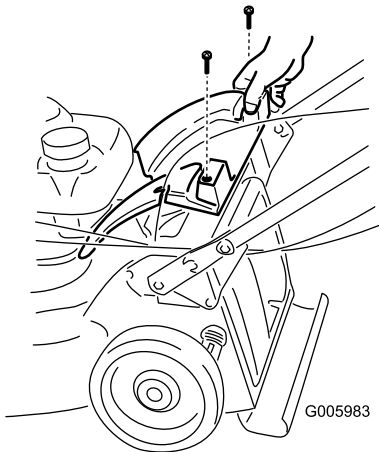

Figure 3
1. Remove the two screws that hold the back cover in place and remove the back cover (Figure 3).